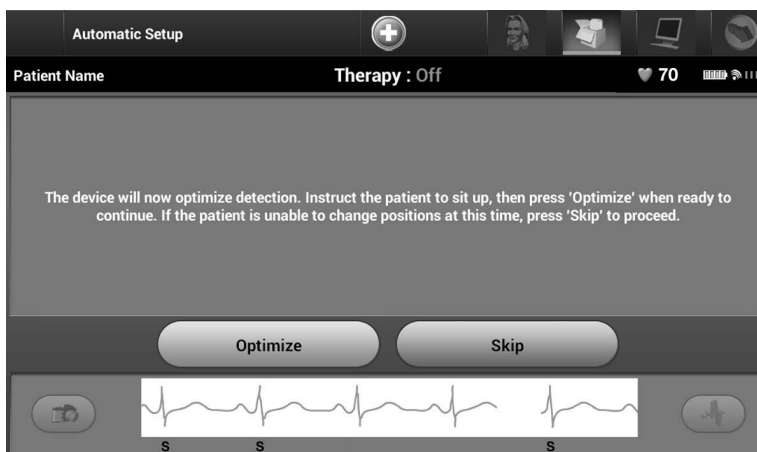

Figure 26: *Automatic Setup screen*
6. The Automatic Setup Sensing Optimization screen will be displayed. The programmer will display a message requesting that the patient sit up; however, this process can be omitted during the implantation procedure by selecting the Skip button (Figure 26).